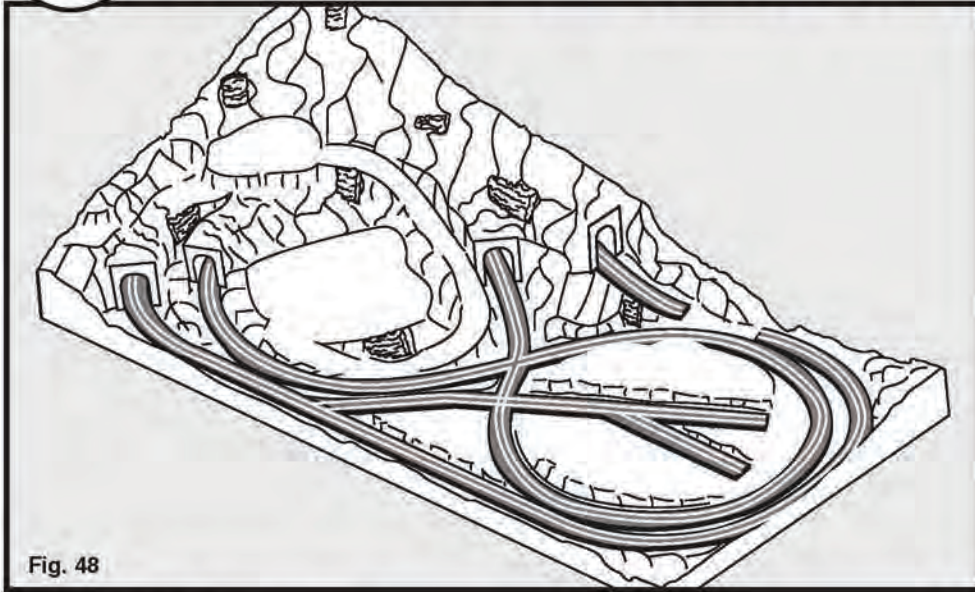

Fig. 48
1. Decide on rock placement and test fit in desired locations. Rocks look more natural on steep hillsides with strata layers running horizontally (**Fig. 48**). Break some castings into pieces for rock variety and a realistic, natural look.